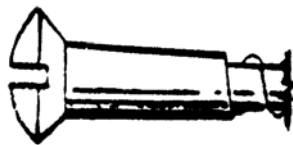

Fig. 6
16. State the type of screw head shown in Fig. 6.